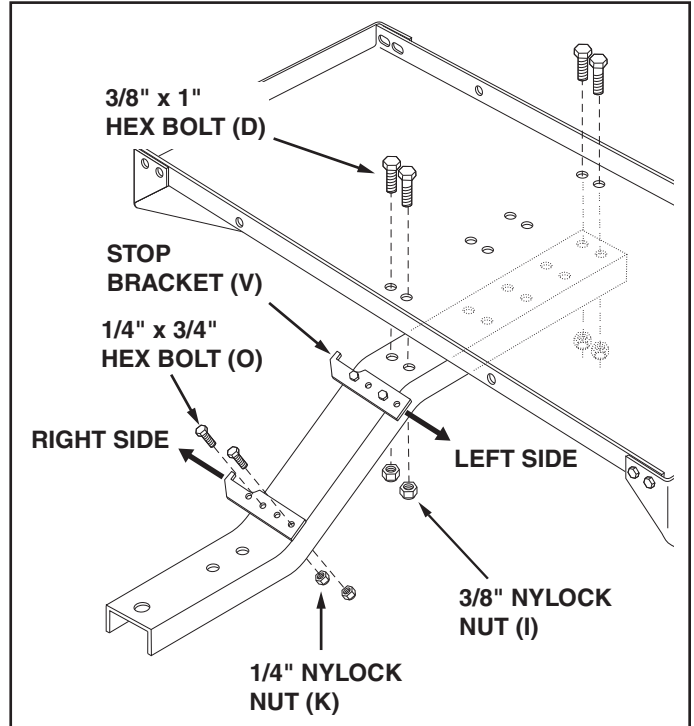

FIGURE 6
7. Assemble the tongue to the tray using four 3/8" x 1" hex bolts (D) and 3/8" nylock nuts (I) as shown in figure 6. **Tighten.**
8. Assemble the two stop brackets (V) to the tongue using four 1/4" x 3/4" hex bolts (O) and 1/4" nylock nuts (K). Position the bottom bracket as far to the right side as possible. Position the top bracket as far to the left side as possible. **Tighten.** See figure 6.